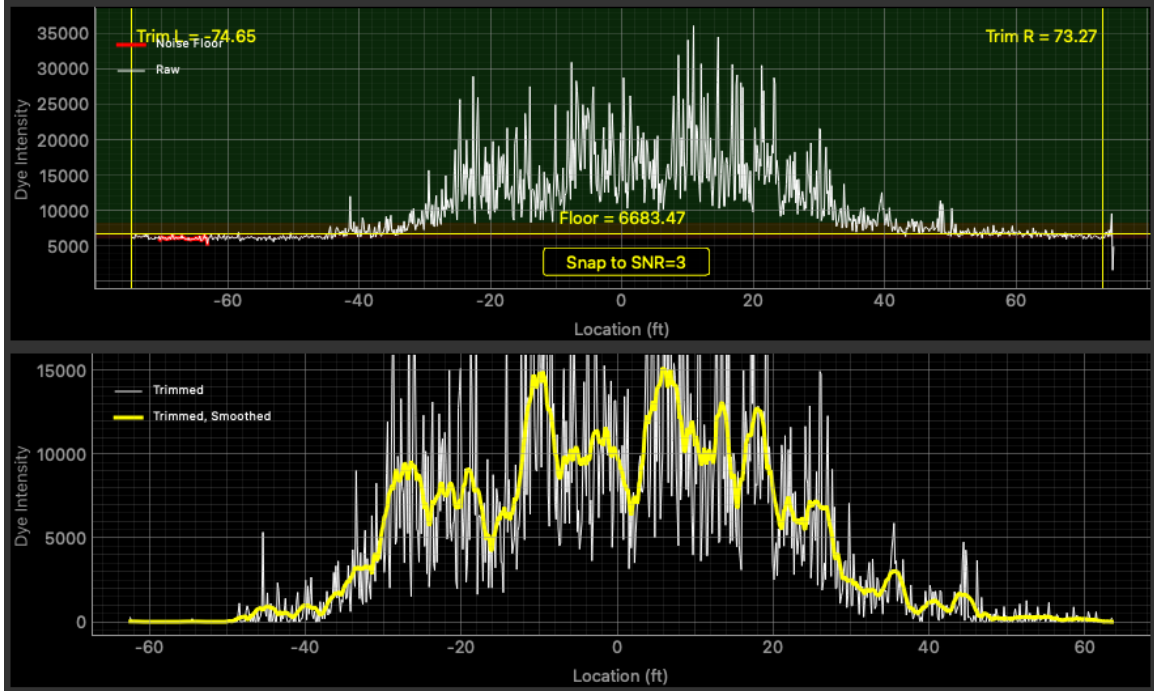

Figure 18: String Analysis - Quality of Pattern Data - Good Isolation
7.2.2.1 Good Isolation A pattern with good isolation from blank string is easy to spot (Figure 18). The segments of blank string are visible as fairly flat compared to the pattern with the vertical scale of the plot squeezing the vertical variation in the blank string segments to appear as barely perceptible. Note also that a majority of the pattern is in the green zone ($SNR \geq 10$), meaning that the pattern signal is very clearly differentiated from the variation in blank string noise.